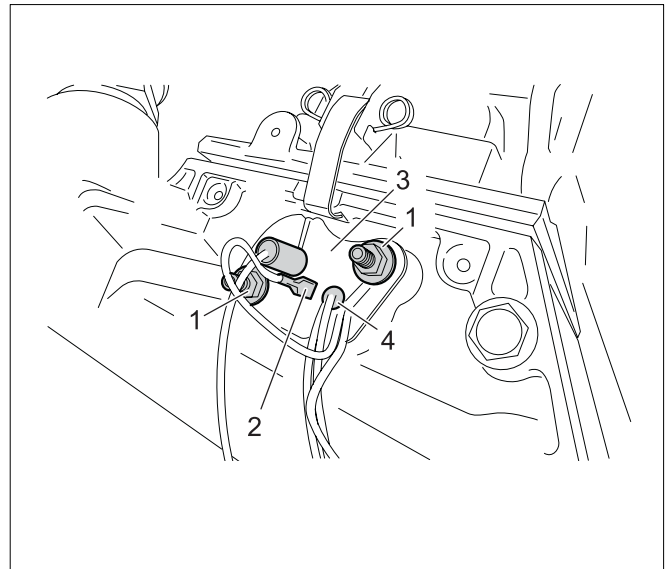

Fig. 68 Replacing the ionization electrode
- Loosen the fastening screws (see fig. 68, pos. 1).
- Remove the earth cable (see fig. 68, pos. 2).
- Remove the mounting plate (see fig. 68, pos. 3).
- Dismantle the ionization electrode (see fig. 68, pos. 4).
- Fit the earth cable (see fig. 68, pos. 2).